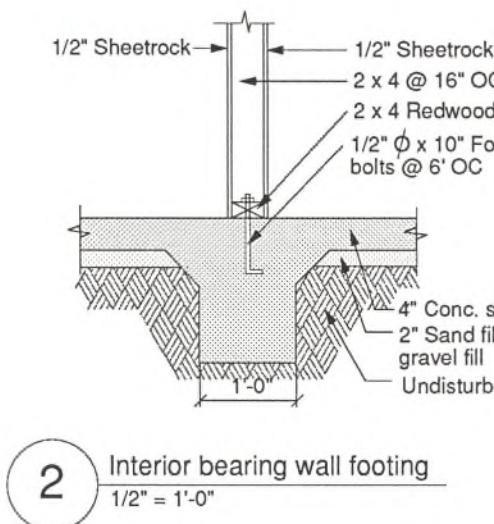

Fig. 22.2 Interior bearing footing detail.
Figure 22.2 is a section view of a typical bearing wall footing placed directly beneath the bearing wall for the purpose of supporting the roof load.
5. Referring to Fig. 22.2, note the shape and size of the footing used to support an interior bearing wall. The footing is represented on the foundation plan by two dashed lines 1' apart centered beneath the bearing wall.